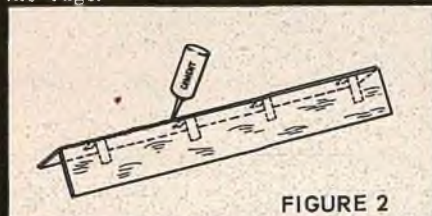

FIGURE 2
Step 2. Next, pick up the sheets, and using the tape as a hinge, open up the butt joint, per Fig. 2.